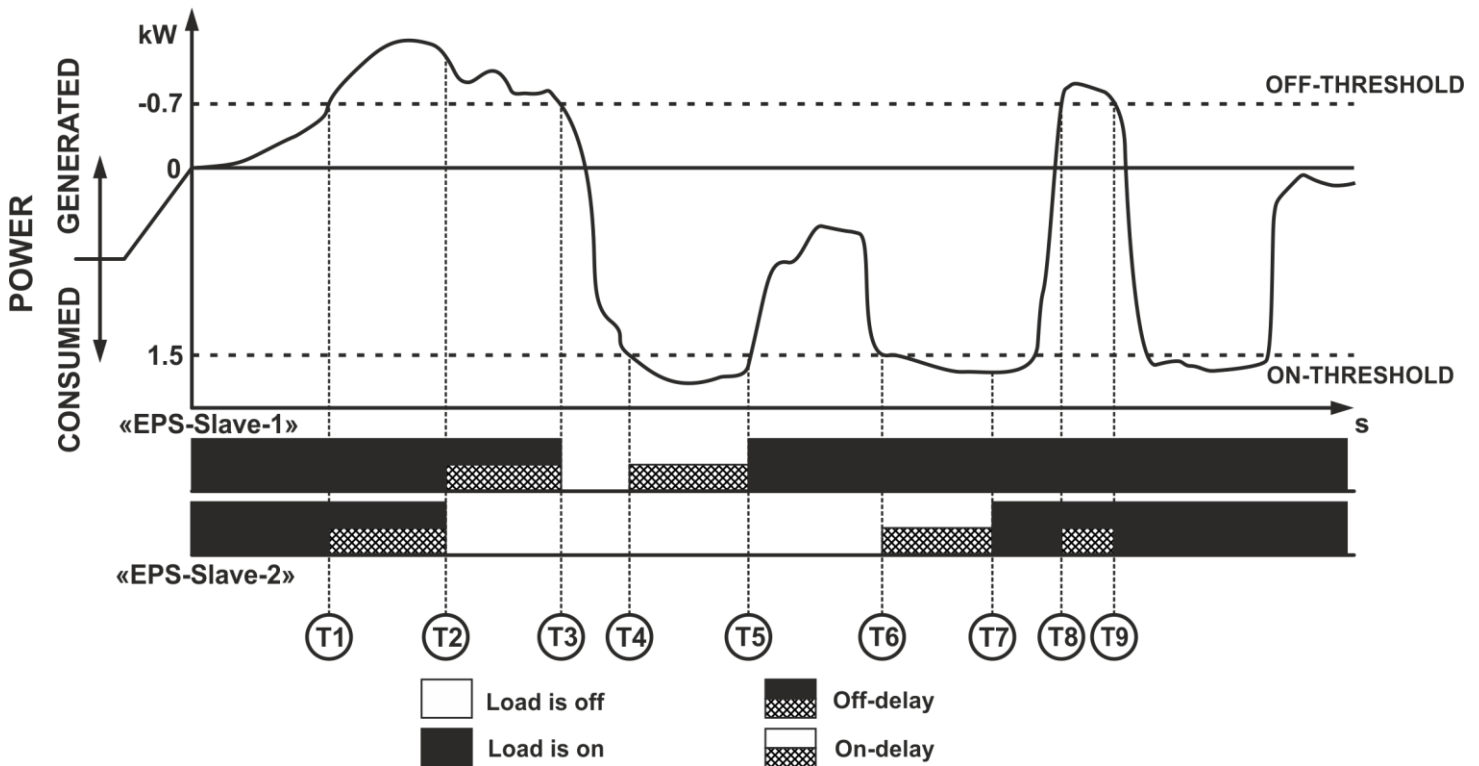

Fig. 15 – Operation in the overflow relay mode with inversion
The «EPS-Master» constantly measures the values of the **generated** and **consumed** power and, depending on the result of measurement, controls the connected «EPS-Slave» according to the following algorithm, shown in Fig. 15:
- 60 s time starts counting (parameter «Off-delay», time T1 or T8 – Fig. 15);